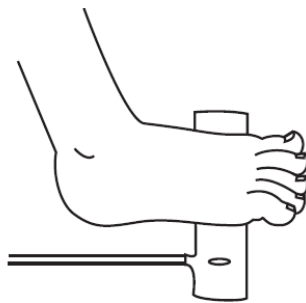

Fig. 2
- toe. Alternatively, the detector may be applied to the top of the foot (not shown). Complete coverage of the detector window is needed to ensure accurate data (Refer to Fig. 2).